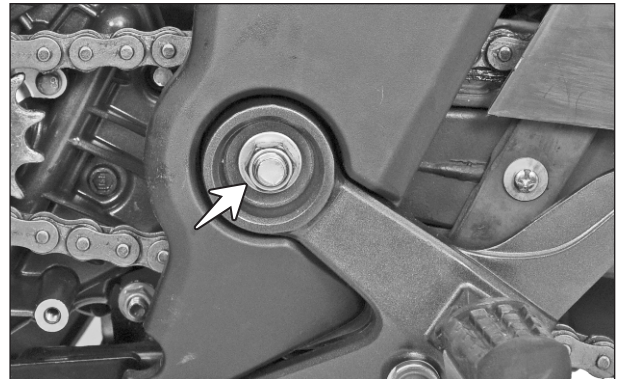

Fig. 6.142
- Remove 'U' nut (M12) rear swing arm pivot mounting. (Fig. 6.142)